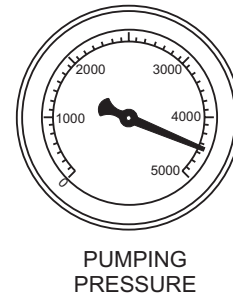

Figure 59. Pumping Pressure Gauge
- The **pumping pressure gauge** (Figure 59) should read approximately 4300 ~ 4400 PSI.